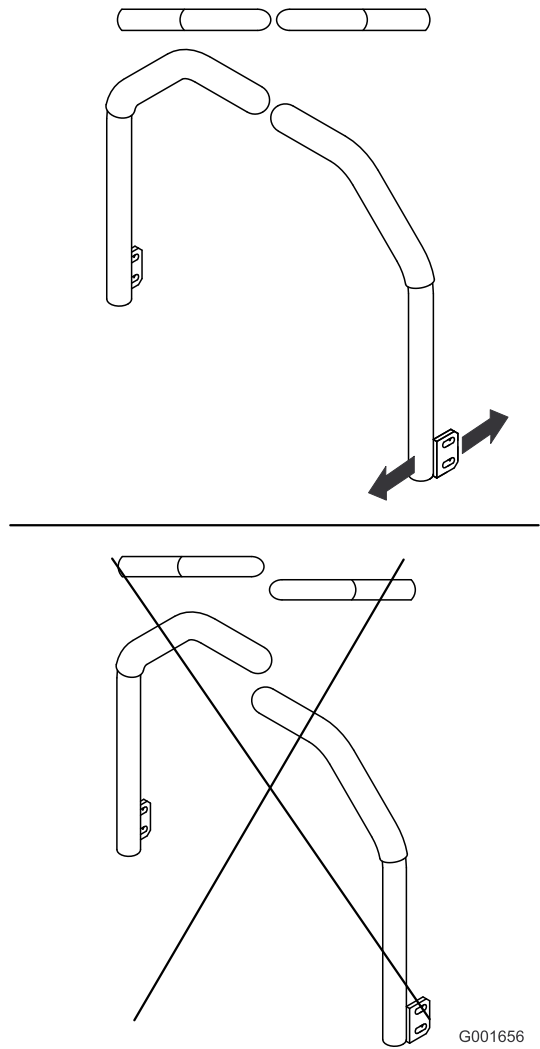

Figure 60
5. Adjust the control levers so that they line up and tighten the bolts, securing the levers to the posts (Figure 60).